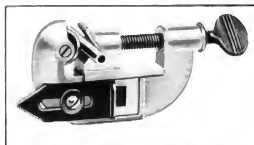

Fig. 7—Cutting Hydraulic Brake Tubing
1. Cut the tubing to the desired length, using tube cutter KMO3 to prevent flattening the tubing. Square off the end with a fine-cut mill file, then clean the sharp edges with the reamer blade provided on the tube cutter. (Fig. 7.)